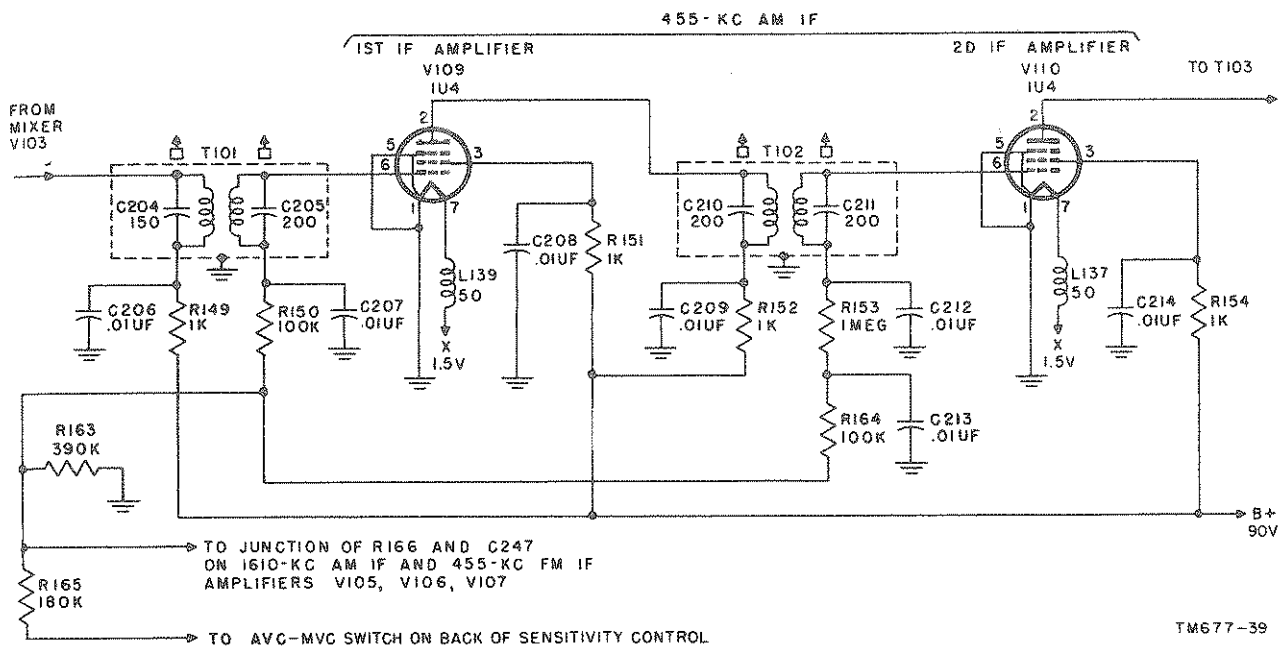

Figure 39. Radio Receiver R-395/PRD-1, functional diagram of 455-kc am if. amplifiers.
signal received from local oscillator V104. On band 2, the plate circuit is tuned to 1,610 kc which again is the difference in frequency between the signal received from second rf amplifier V102 and the signal received from local oscillator V104. The intermediate frequency signal is fed to V109 (fig. 39) for am signals on bands 1, 3, 4, 5, 6, and 7;
76. If. Amplifiers, 455-Kc Am (fig. 39)